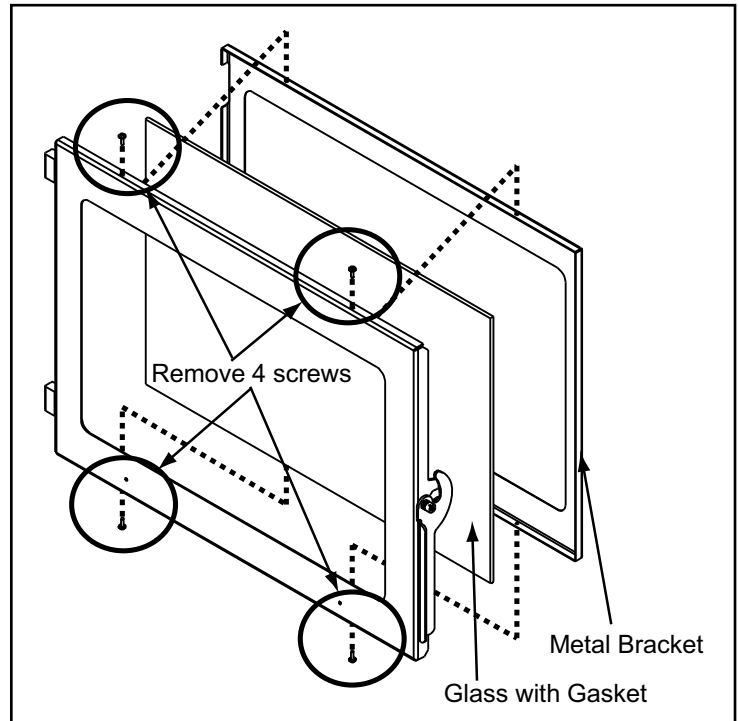

Figure 37.2
- b. Using a Phillips head screw driver, remove 4 screws, 2 on the top and 2 on the bottom. Remove metal bracket and then remove the glass. **Figure 37.2.**